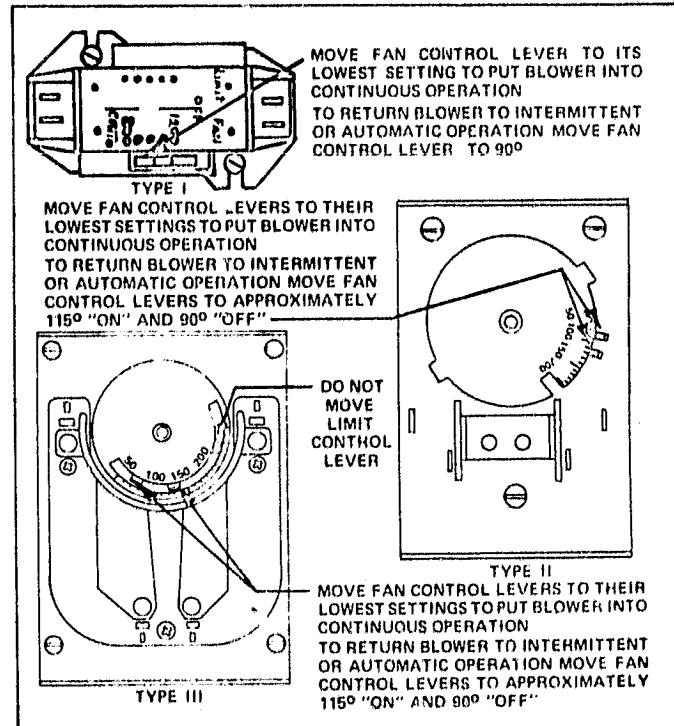

FIGURE 1
- 2 - Fan Control - Refer to Figure 1 to determine the type of control used on this unit and the correct setting.